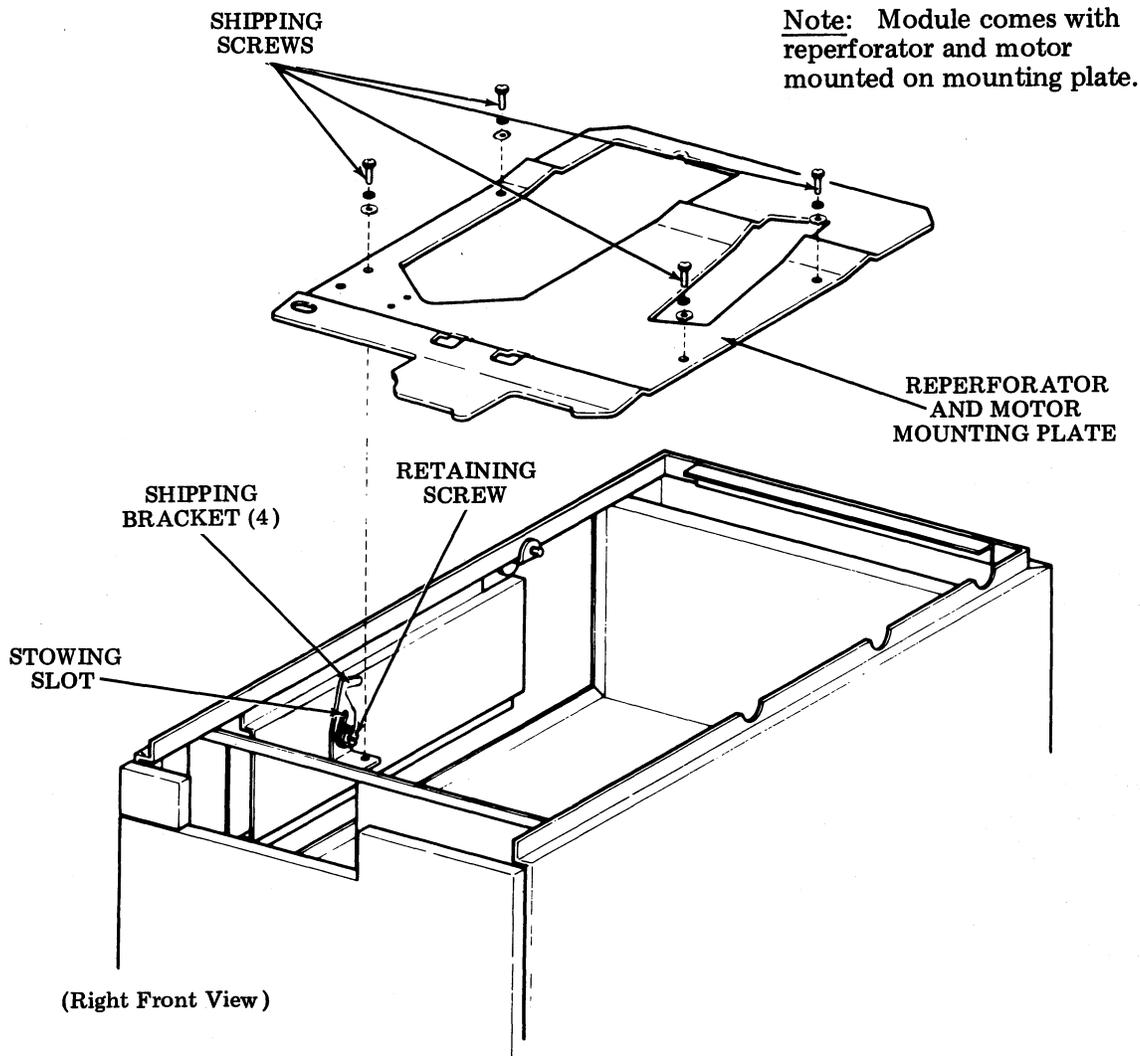

Figure 9 - Disabling Shipping Brackets — RT Module
2.09 If required, remove the shipping bracket mountings on the reperforator base by the following procedure (Figure 9):